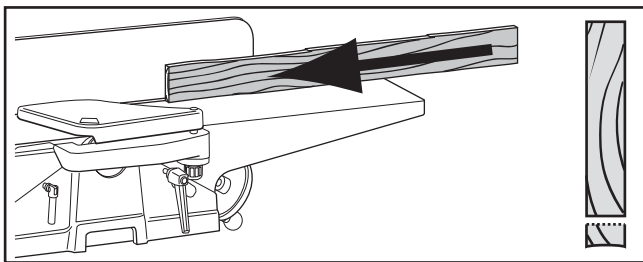

Figure 41. Edge jointing on a jointer.
1. Edge joint the concave edge of a 7' long 2x4 flat on a jointer, as shown in **Figure 41**.